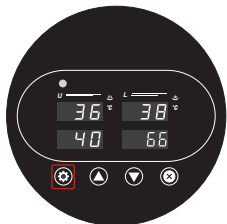
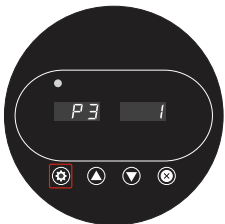

Fig. 13
Fig. 14
- Long press  set button on the control panel (Fig.13) about 8 seconds, and the machine will enter into the internal setting . Then Press  the set button twice until it shown like this. (Fig.14).